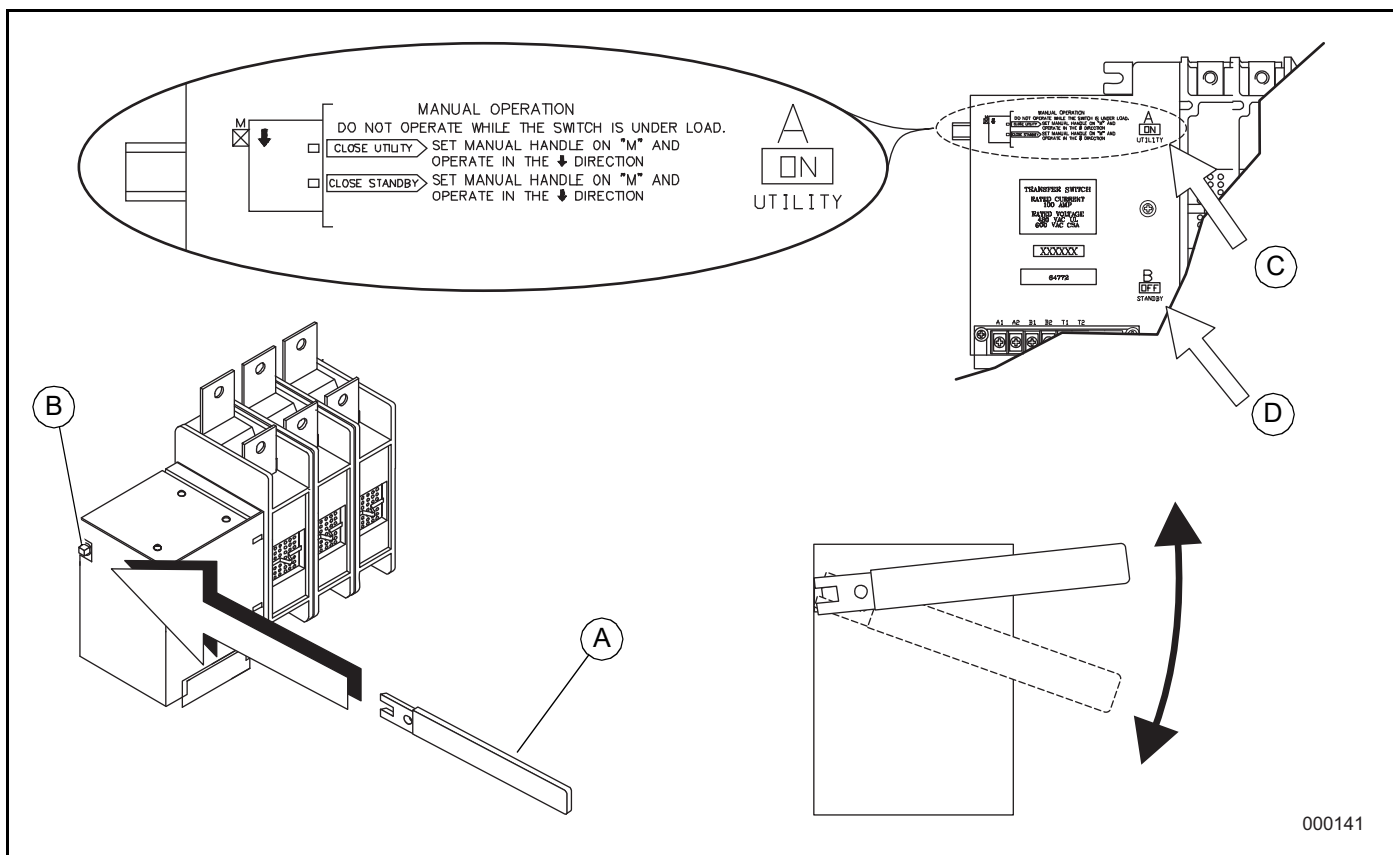

Figure 4-1. Actuating Transfer Switch
See **Figure 4-1**. A manual handle (A) is shipped with the transfer switch. Manual operation must be checked **BEFORE** the transfer switch is operated electrically.
3. See **Figure 4-1**. Note position of transfer mechanism main contacts (C, D) by observing display windows in “A” and “B” as follows:
See **Figure 4-1**. Before proceeding, verify the position of the switch by observing Window “A.” If Window “A” reads “ON”, the contacts are closed in the normal position; no further action is required. If it reads “OFF,” proceed as follows:
See **Figure 4-1**. Before proceeding, verify the position of the switch by observing Window “B.” If Window “B” reads “ON”, the contacts are closed in the EMERGENCY (STANDBY) position; no further action is required. If it reads “OFF,” proceed as follows: